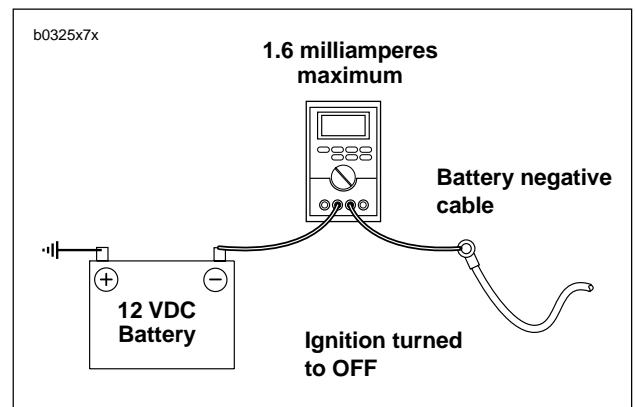

Figure 7-23. Milliampere Draw Test
- See Figure 7-23. Connect ammeter between negative battery terminal and battery. With this arrangement, you will also pick up any regulator drain.